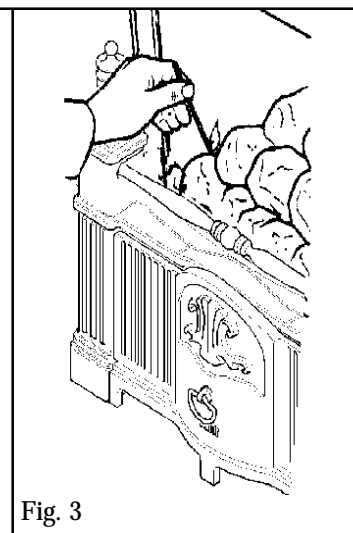

Fig. 3
- If the spark ignition fails, the fire can be lit manually by inserting a lighted taper alongside the left side inside the fire box (as shown in figure 3) and depressing the control knob at the “PILOT/IGN” position.